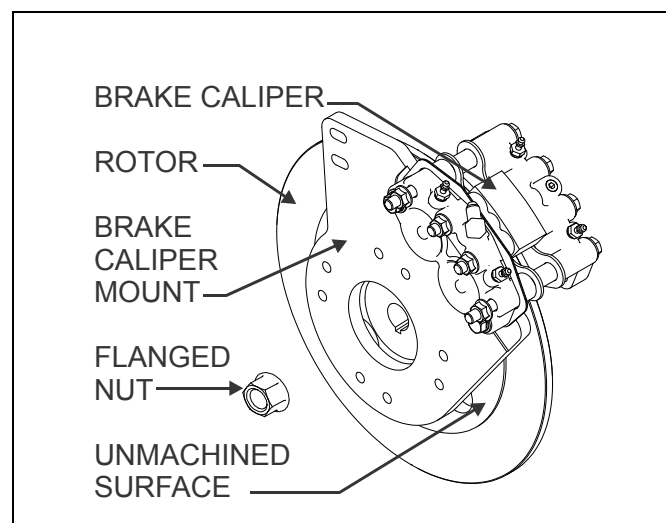

Figure 3-12: Rotor Assembly
3. Loosen the flanged hex nut (3/4-16, Grade 8) and hardware from the motor shaft (See Figure 3-12). **DO NOT** remove the nut from the assembly at this time.
4. Drive pry bar between non-machined surface of the rotor and the drive motor, where the brake caliper is mounted (See Figure 3-12).